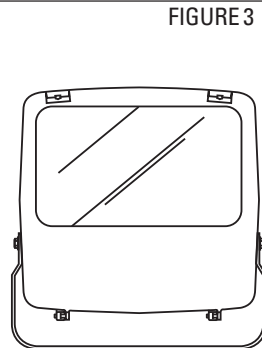

FIGURE 3
4. Secure component cover to housing using same 3 screws. Latch front cover to housing. (Reinstall tamperproof screws as required). (FIGURE 3).